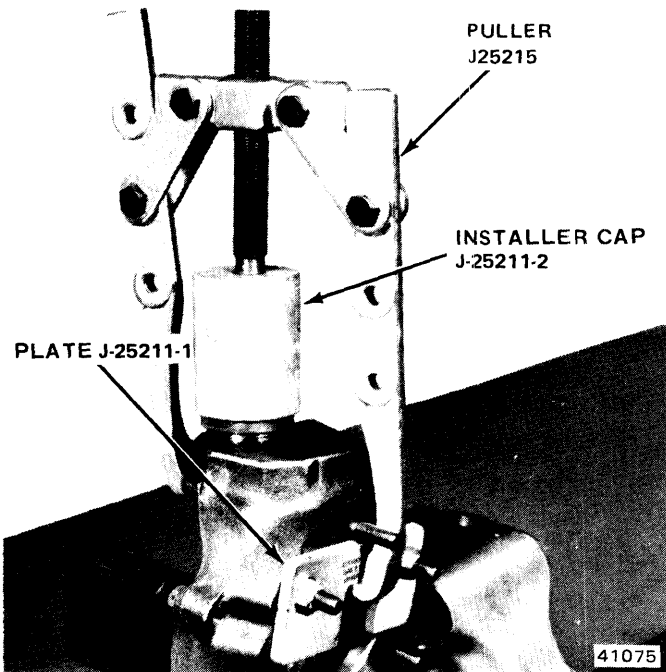

Fig. 10-10 Upper Ball Stud Installation
- (6) Position upper ball stud on knuckle. Use Installer Cup J-25211-2 and Puller J-25215 to press in upper ball stud (fig. 10-10).